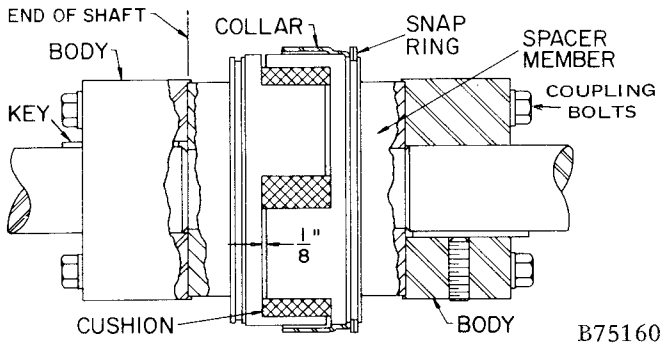

FIGURE 1-7. — COUPLING
**COUPLING** (Figure 1-7) — The motor and compressor are direct connected by a resilient cushion type flexible coupling. The coupling has a removable spacer center section with several individual cushions. The coupling does not require lubrication.
4. Position the compressor and motor so that approximately 1/8" gap exists between the ends of the jaws of one spacer member and the flange of the opposite spacer member, Figure 1-7. This is important to prevent preloading the drive shaft bearing.
8. Insert the individual cushions and slide the outer collar over the cushions, Figure 1-7, and secure snap ring or replace cap screws.